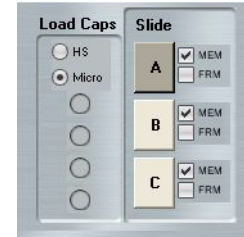

Figure 56 Cap and slide handling area (v3.4 software).
1. Place the cursor to the right of the slide overview image, right-click on the **Cap** button for the cap of interest in the QC cap position (see Figure 56).
You can also add CapSure™ Caps to the Load Caps area by clicking a cap in the Load area here (see Figure 56). This shortcut lets you load caps without opening the Load Options dialog box, but to use this shortcut, the corresponding QC Caps position must be empty.